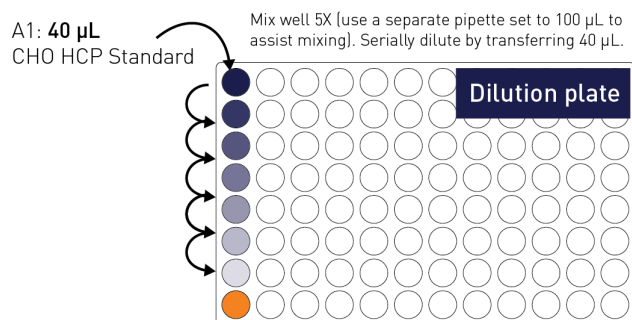

Fig. 2 Serially dilute the CHO HCP standard from SD1 to SD7 (tubes) or A1 to G1 (shown in plate format)
- Serially dilute the CHO HCP standard from SD1 to SD7 (tubes) or A1 to G1 (plate wells, which are shown in Figure 2).